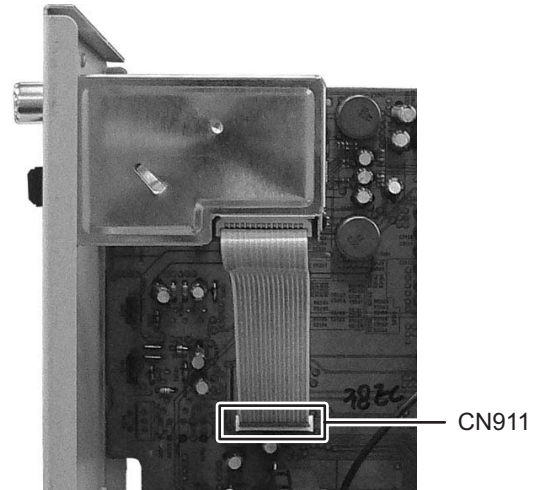

Fig.6
### 3.1.3 Removing the Tuner pack (See Fig.6, 7)
- (1) Disconnect the card wire from Tuner pack connected to connector **CN911** of the Main board assembly. (See Fig.6)
- (6) Solder to short land part **j** of pickup. (See Fig.6)
- (7) Release the lock of connector **CN601** to direction of the arrow 2 and disengage the card wire. (See Fig.6)
- Solder to short land part **j** of the pickup then disconnect the card wire from connector **CN601** of the CD servo board. If disconnect the card wire before soldering, pickup is make sure destroyed by static electricity. (See Fig.6)